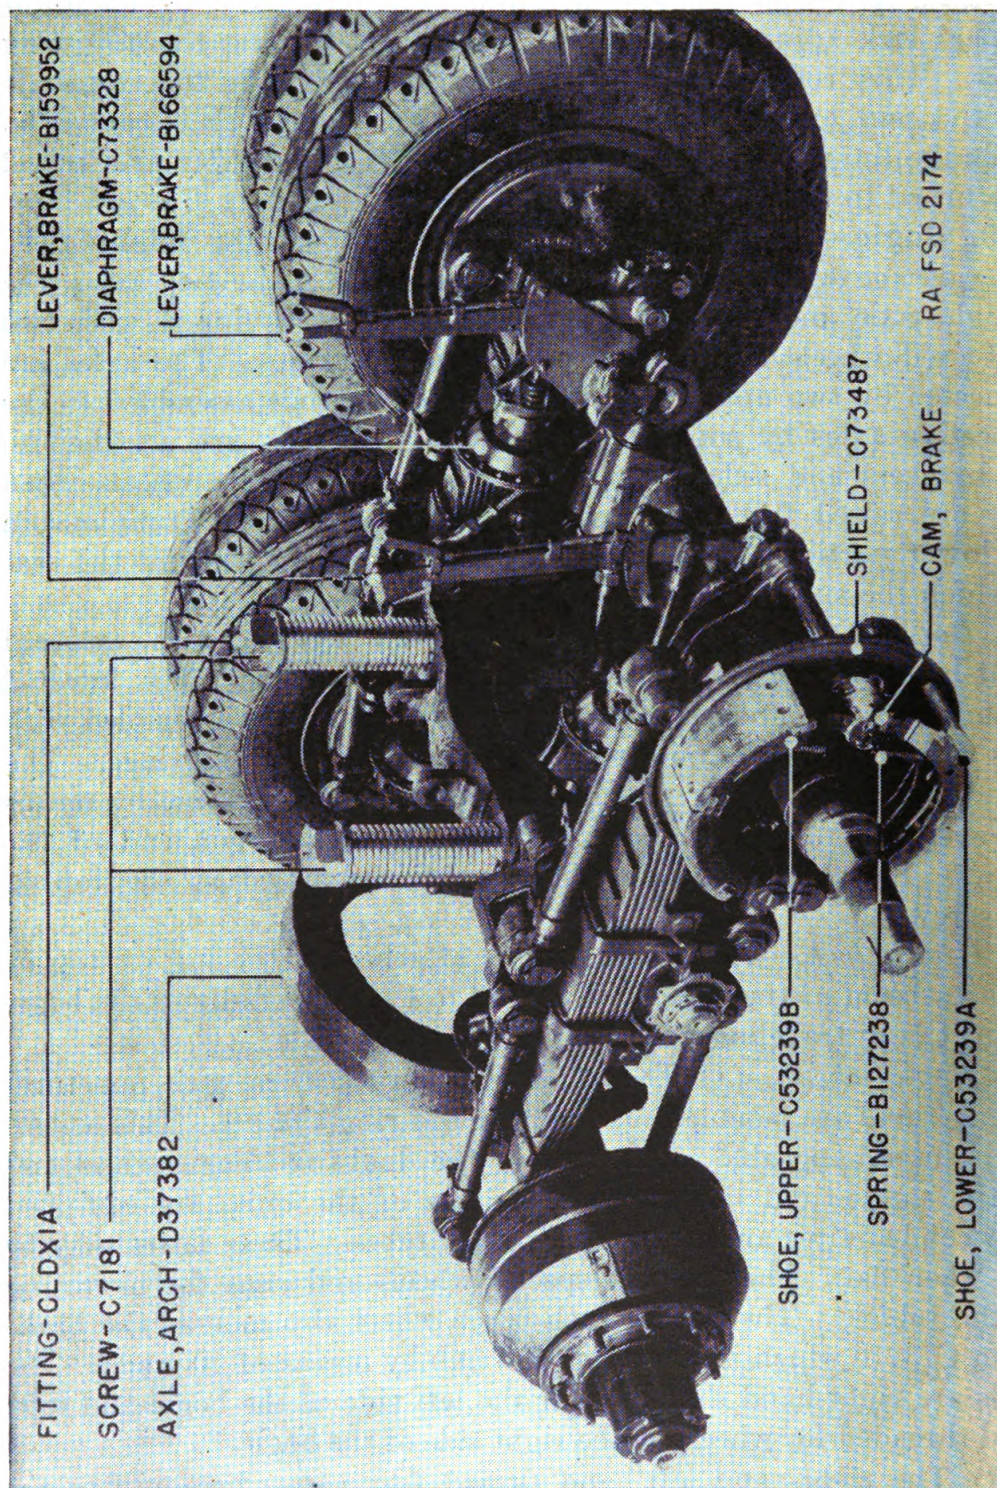

FIGURE 18.—155-mm gun carriage bogie M1—rear view.
cradle, recoil mechanism, equilibrators, and trails. The top carriage pivots about a vertical axis on the chassis part of the bottom carriage. The bottom carriage supports the top carriage and is provided with a bogie lifting mechanism which permits the bottom carriage to rest on the ground during firing. The firing stresses are transmitted through the trunnions, top carriage, bottom carriage, and trails to the spades. The spades, being embedded in the ground, prevent movement of the carriage. The cradle is suspended by its trunnions resting in the trunnion bearings in the top carriage, and having its forward end supported by the equilibrators. The equilibrators act to neutralize unbalanced weight and reduce the manual effort needed to elevate the gun. When traveling, the carriage is connected to a power air brake system, with equalized brakes on the four bogie wheels controlled from the prime mover. Two hand brake levers are provided which operate the brakes on the two front bogie wheels. They are used for parking when the carriage is disconnected from the prime mover, and in case of failure of the power brake mechanism (figs. 18 and 20).
*b. Mechanical brakes.*—The mechanical brakes are assembled to the dust shields secured to each of the bogie axles. The brake shoes pivot on one end and are expanded against the brake drum by the action of the brake shoe cam when the brakes are applied. The brake shoe cam is integral with the cam shaft. When the brakes are released, the cams return to the disengaged position, and the brake shoes are pulled away from the brake drums by the action of the brake shoe springs (figs. 18 and 21).